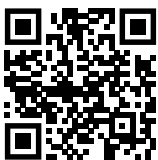

Fig. 154
- ▶ Open Liebherr SmartMonitoring Dashboard. (see Fig. 154)